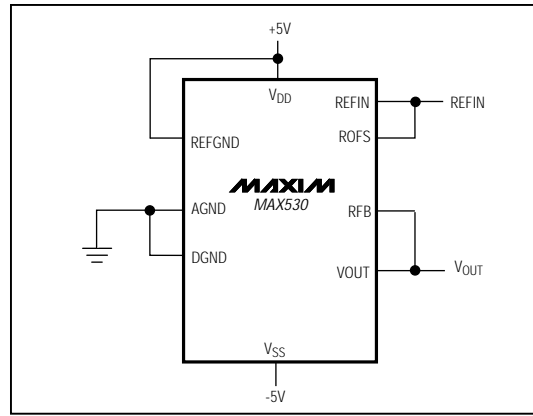

Figure 12. Four-Quadrant Multiplying Circuit
The MAX530 can be used as a four-quadrant multiplier by connecting ROFS to REF_{IN} and RFB to VOUT and, using (1) an offset binary digital code, (2) bipolar power supplies, and (3) a bipolar analog input at REF_{IN} within the range V_{SS} + 2V to V_{DD} - 2V, as shown in Figure 12.